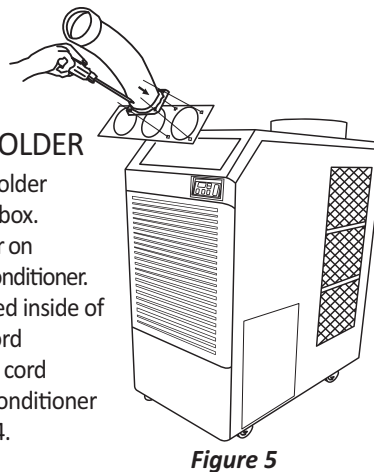

Figure 5
3. Use screws (enclosed inside of box with cool air outlet hose(s) to install the cool air outlet hose(s) on the air conditioner as shown in Figure 5.
3. Use screws (enclosed inside of box with the top fan exhaust flange) to install the top fan exhaust flange on air conditioner as shown in Figure 5.